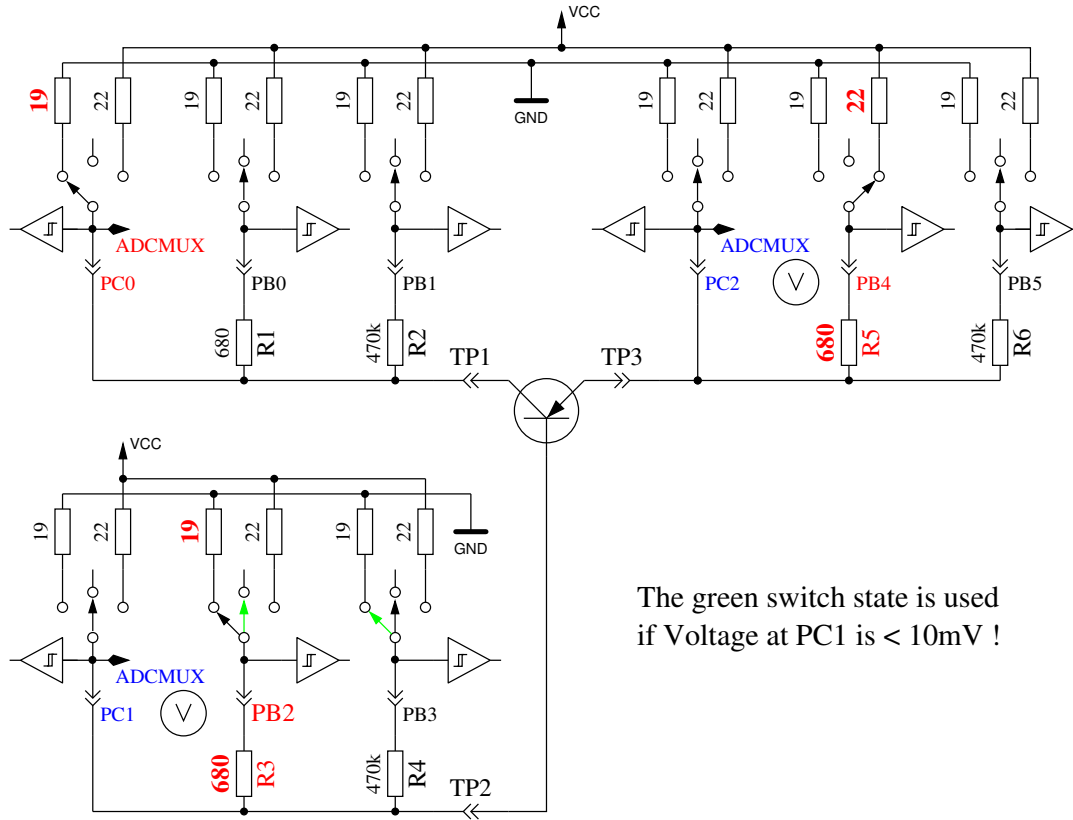

Figure 4.3: hFE measurement of PNP transistor with common collector circuit
First the current amplification factor is measured with common collector for the assumed PNP transistor. The measuring situation is shown in figure 4.3. If the measured voltage at the Base (UB) is above 9mV with the 680Ω resistor, the hFE is build as $hFE = \frac{UE-UB}{UB}$. The voltage UE is the difference of the Emitter-voltage to VCC. The difference between the 22Ω and 19Ω resistors are not respected. If the UB voltage is below 10mV, the measurement is done with the $470k\Omega$ resistor at the base. In this case the current amplification factor is build as $hFE = \frac{UE \cdot 470000}{UB \cdot (680 + 22)}$. Because the current amplification factor of Darlington Transistors can be very high, the factor is limited to 65535 ($2^{16} - 1$).